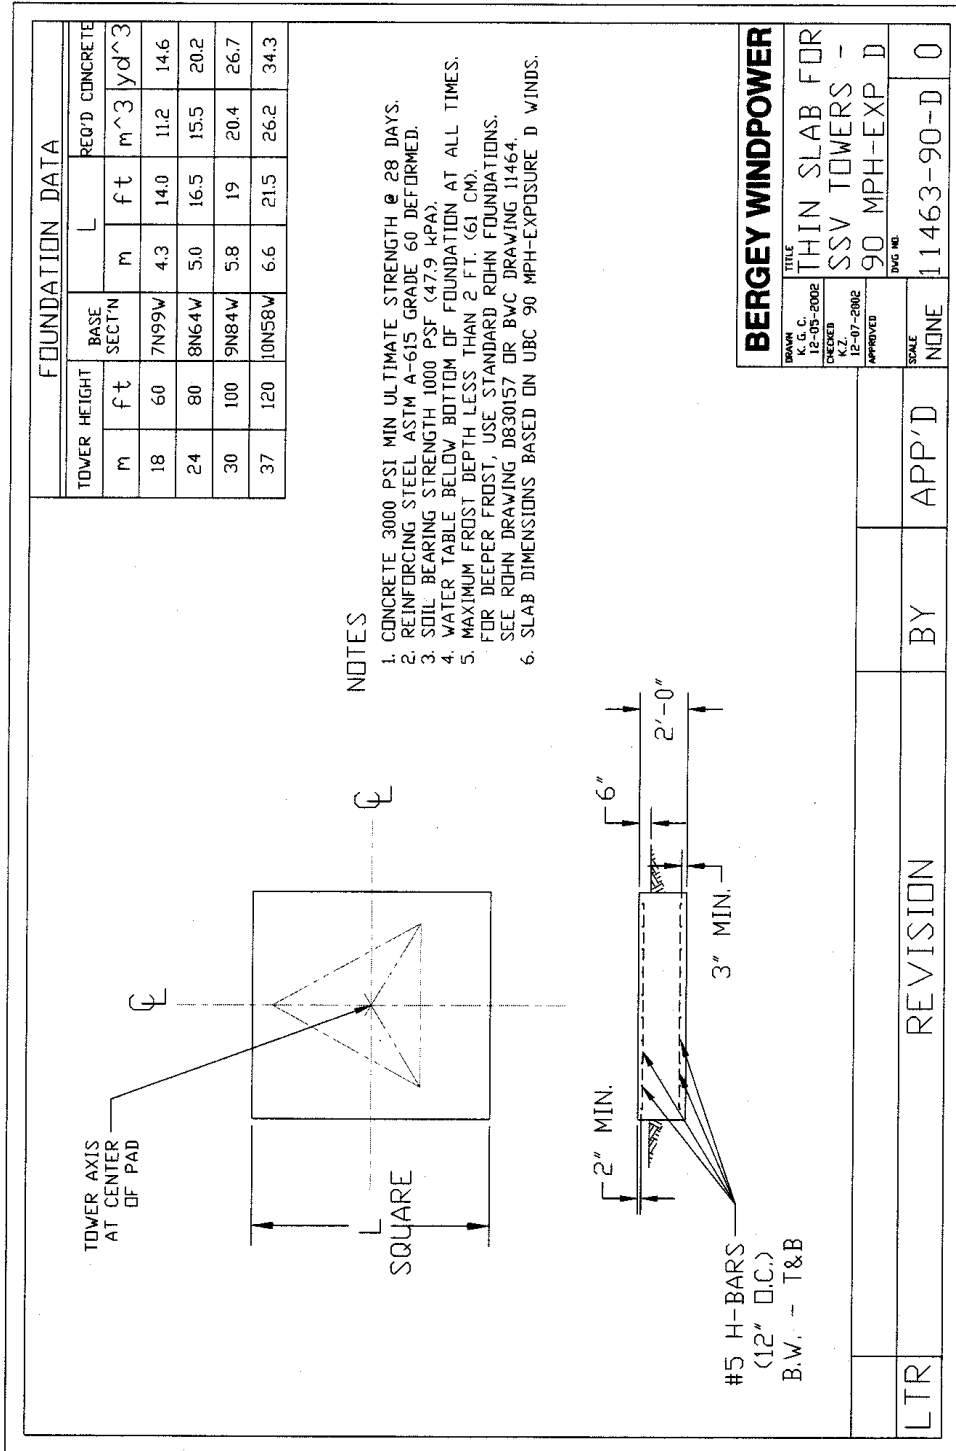
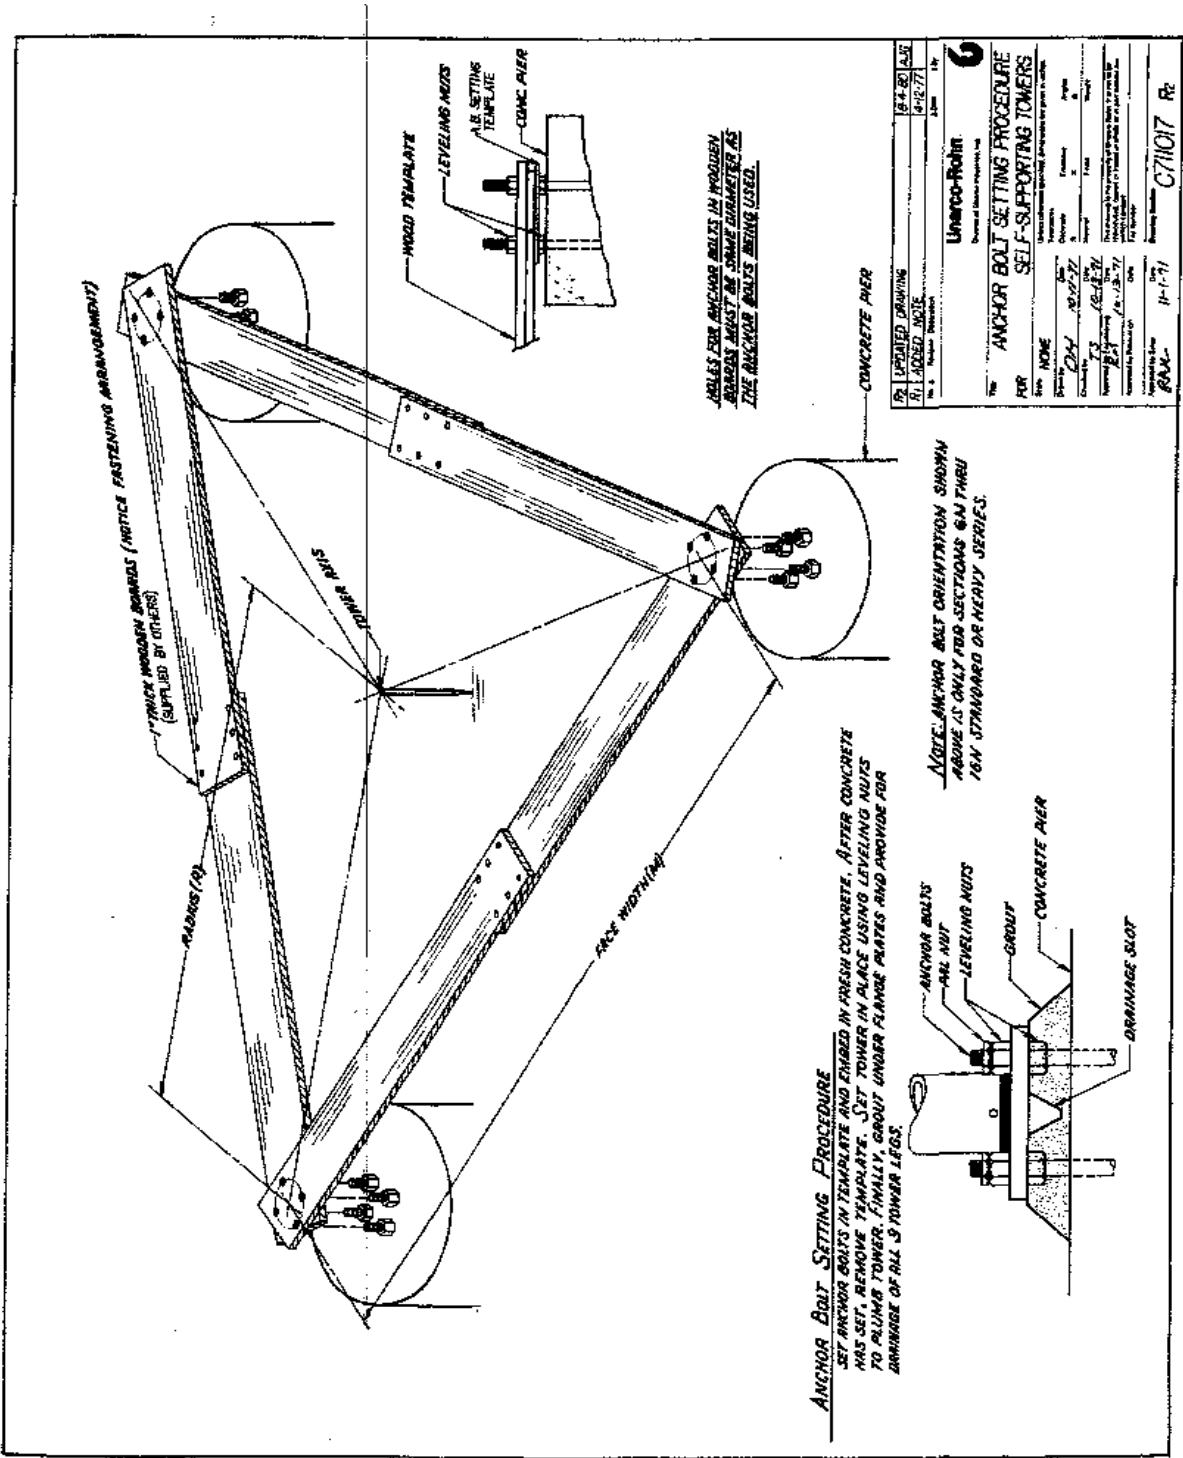

Figure 6. Thin Slab Foundation - High Winds
Figure 10. Triangular Anchor Bolt Fixture
Assembly of the anchor studs and anchor plates is shown in **Figure 8**; a similar diagram for the J-bolts is shown in **Figure 9**. Construction and use of a triangular fixture to properly locate and orient groups of anchor bolts is shown in **Figure 10**. Each tower kit includes 3 thin, metal patterns that are used to control the arrangement of bolts in each anchor group. These patterns, labeled “A.B. Setting Template” in Figure 6, may also be used as guides when drilling the triangular placement fixture. (Note that J-bolt anchors include a second set of sheet metal patterns that control below-grade arrangement of the bolt groups. These patterns are distinguished by a large round hole in the center of each pattern. This fifth hole allows concrete to move easily through the pattern and into the space between the bolts.)
**NOTE: IT IS IMPERATIVE THAT ANCHOR BOLTS BE ACCURATELY LOCATED AND LEVELLED! Use an accurate fixture, as shown in Figure 10 (Rohn Drawing C711017), to locate anchor bolts. Install template with clearance above top surface plane of foundation to allow for proper finishing of foundation top surface. Tie anchor bolts firmly to avoid movement when concrete is poured. Assure proper concrete cover over all rebar.**